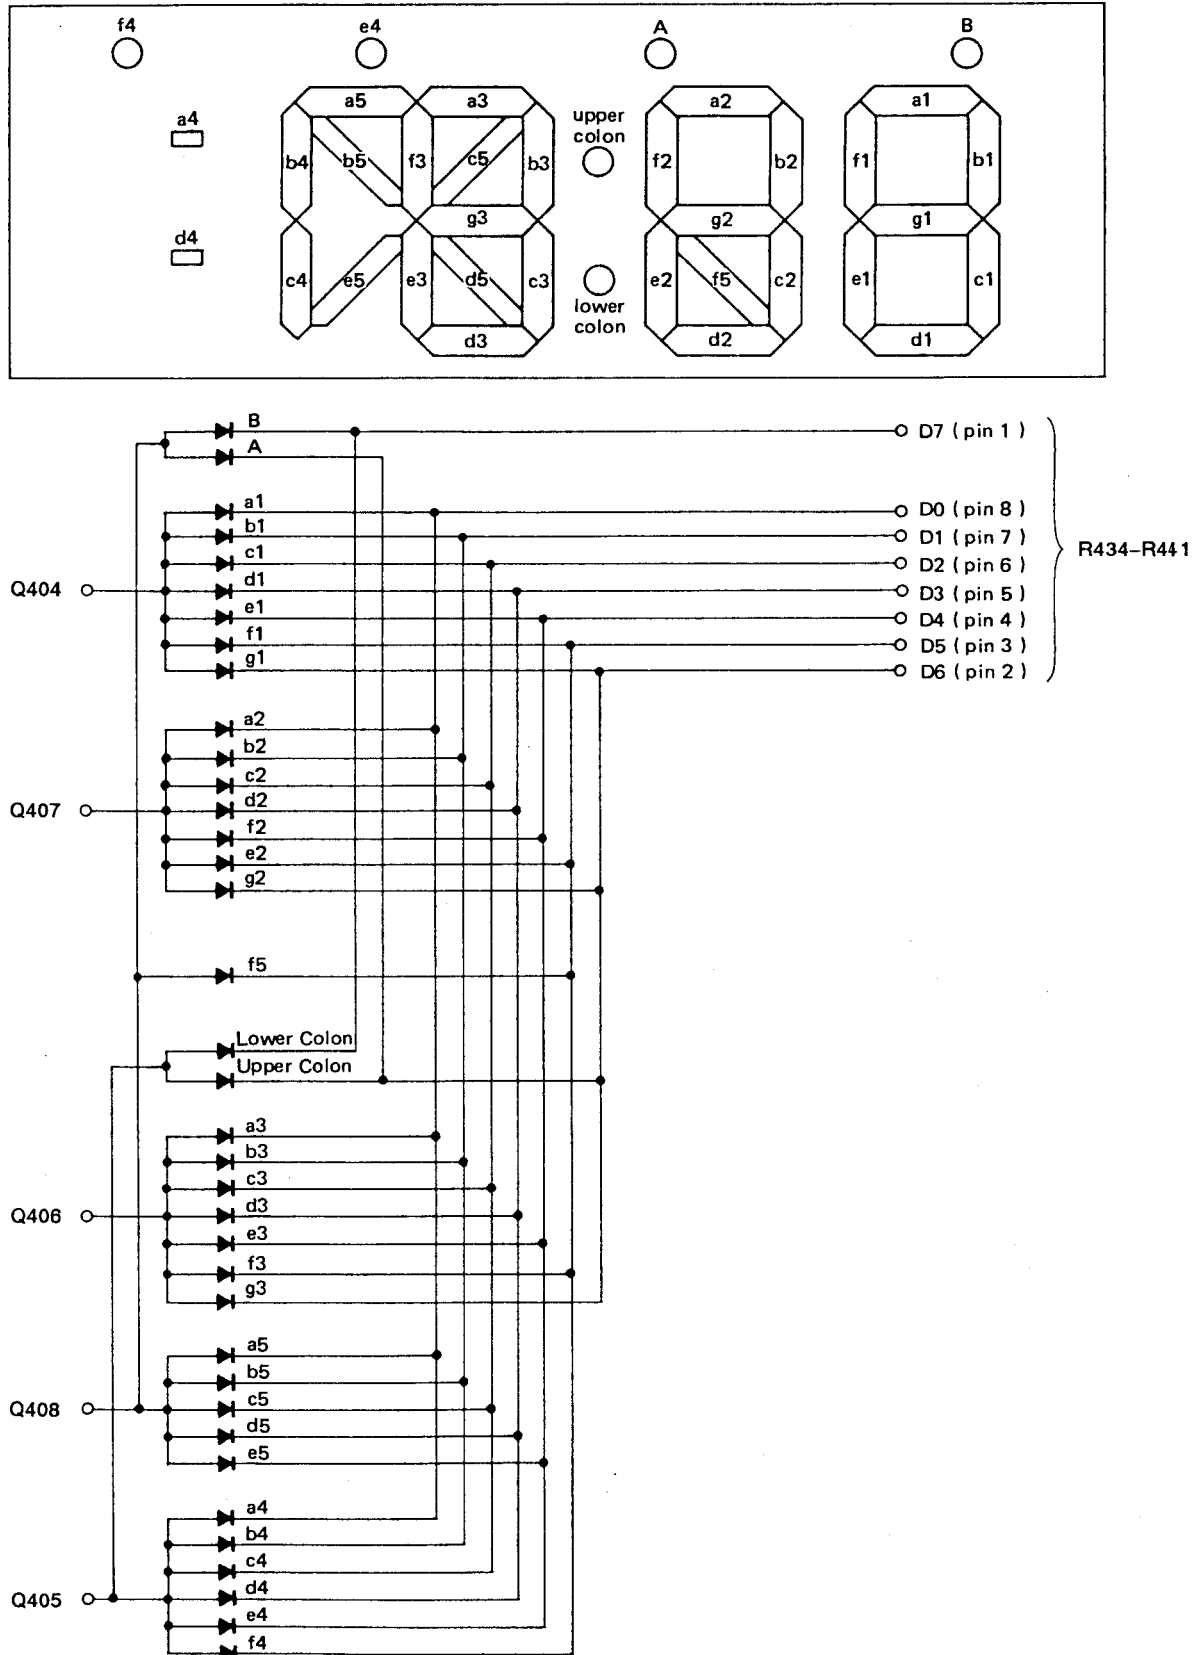

Fig. 30 Display Portion
7.3 Output to Display LEDs (Fig. 30)
When the parental control channel lock lever is in the locked position, the pin 42 of IC402 goes "low". At this point, if a parental controlled channel is selected and the "PC function enable" is established with a center command, then IC402 causes the PC LED "A" (See Fig. 30.), to blink and the disable channel to be tuned in. Table 1 shows the parental control channel lock key logic.